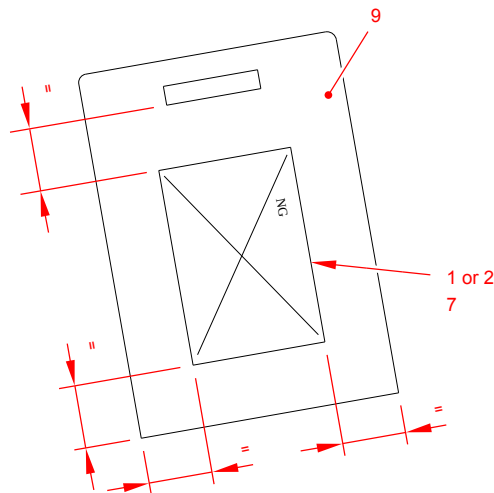

Figure 1
4.1.1. For the AS365-K version (Figure 1):